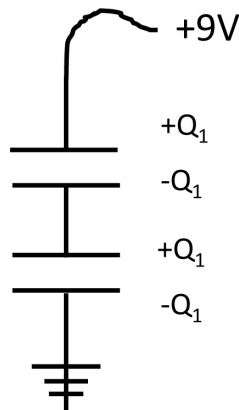

Figure 4: Distribution of charges of initial configuration of circuit in Expt. I.
6. The capacitors in this lab have equal and opposite charges on their plates. The distribution of charges on the configuration shown in Fig. 2 must therefore be as shown in Fig. 4 (we have not yet calculated the magnitude of Q_1).